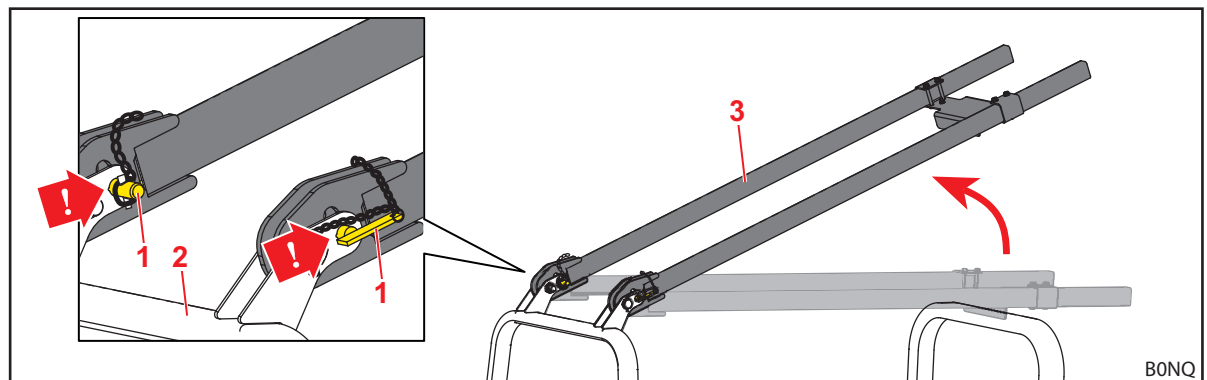

Fig. 40 Crossbars folded up and secured in the lower holes
- (1) Secure the long crossbars in the lower holes.
- Secure the long crossbars with locking pins in the lower holes (see Fig. 40).
- (2) Fold the lower bar up (see description for OPG without long crossbars at the beginning of the chapter).
- (3) Fold down the long crossbars.